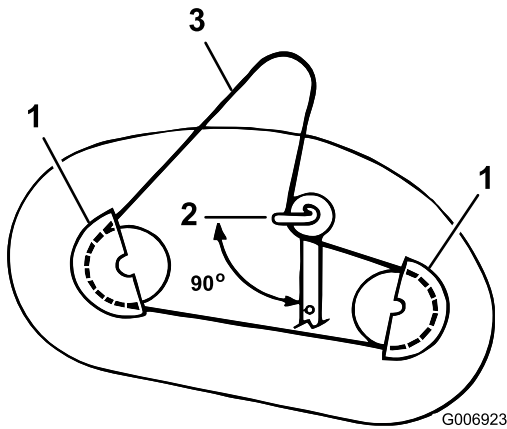

Figure 44
2. Remove the pulley cover mounting screws and pulley covers from both blade pulleys (Figure 44).
3. Loosen, but do not remove, the bolt and nut that secures the idler pulley and the belt guide (Figure 44).
2. Position the idler pulley belt guide so that it points toward the left, 90° to the idler arm (Figure 44).
4. Install the left and right pulley covers with the mounting screws (Figure 44).